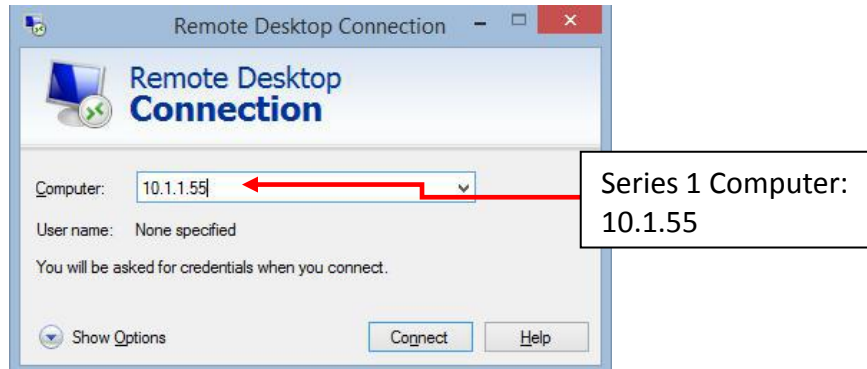
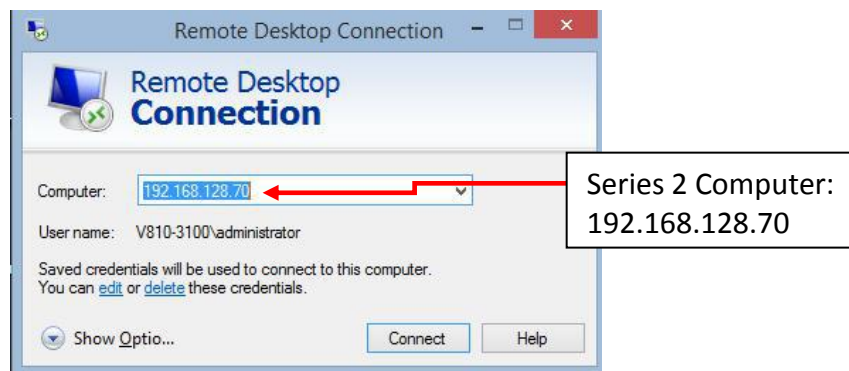

Figure 10 Series 1
Figure 11 Series 2
21. Login to the Atom PC and enter the computer name as shown below in Figure 10 (S1 Series) and Figure 11 (S2 Series)